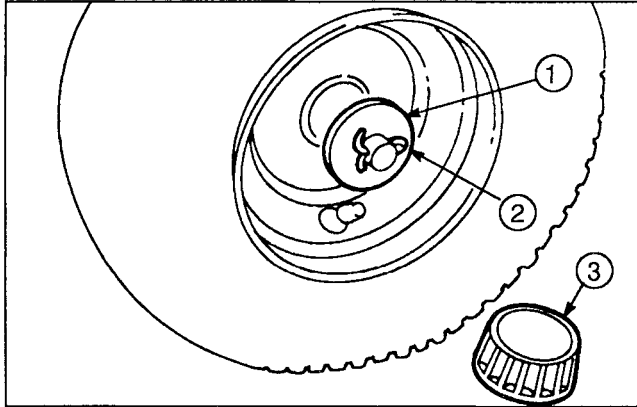

Figure 1
2. Mount flat washer onto axle, insert cotter pin and open pin ends with pliers (Fig. 1).